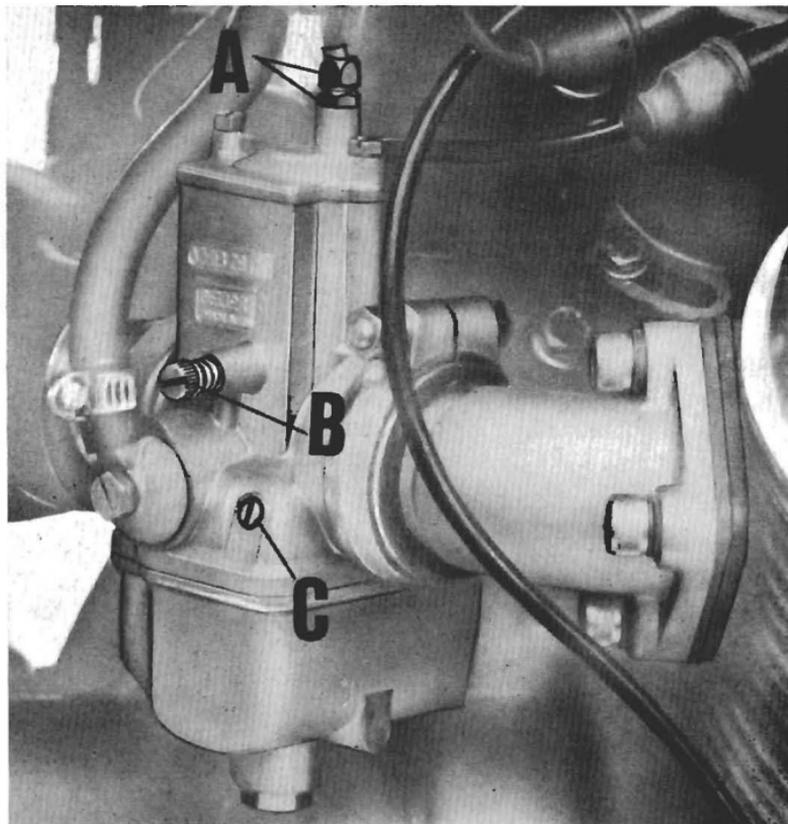

Fig. 17
- 2) With the filter box and the rubber inlet manifold removed, check that both gas valves open at the same time. This is done by turning the throttle grip and at the same time feeling with your fingers on the carburetor slides if these open simultaneously by the same amount. Should one valve open before the other, correct by setting screw A (See fig. 17) in the position where by turning the throttle both valves open simultaneously.
- 3) Adjust the idling speed by acting on screw C in fig. 17. Screwing this in reduces the fuel flow and viceversa increases it. To adjust, tighten the screw and then undo it $1\frac{1}{2}$ - 2 turns for the left cylinder carburetor and 2 - $2\frac{1}{2}$ turns for the right cy-
linder carburetor. With the engine revolving at about 1000-1200 r.p.m., disconnect the plug lead of any one of the cylinders and lightly turn screw C in fig. 17 of the opposite carburetor on to the position which will give the best idling speed, i.e. until the engine revs increase slightly. The same operation should be repeated
- 4) Disconnect the R/H cylinder plug lead, start the engine, and ensure that it stops after firing 4 or 5 strokes. If it dies out earlier or later, it is necessary to adjust idling screw B in fig. 17 to the point where the engine will stop after firing 4 or 5 times.
If the R/H cylinder is normal, the engine should stop after firing 4 or 5 times. If not, screw B in fig. 17 should be similarly adjusted to the position where it does so. The L/H cylinder plug lead is then reconnected.